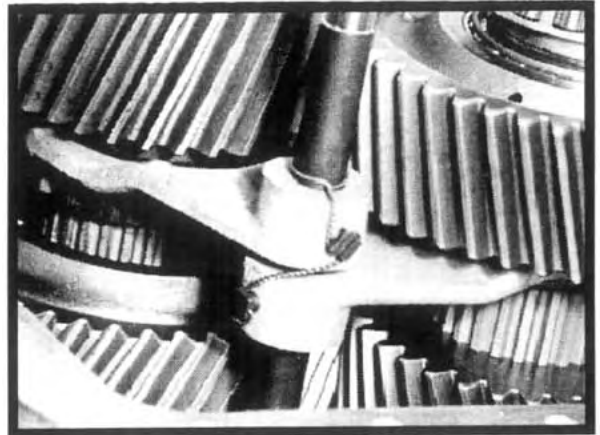

Figure 6.37
13. Install the input shaft shift fork locking screw and torque to specification. Be sure that the screw is seated in the lower groove. Rotate both shift forks clockwise until no further movement is possible. Install the intermediate shaft shift fork locking screw and torque to specification, insuring that the screw is seated in its groove. Attempt to rotate the shift shaft back and forth. There should be some obvious free play. Lockwire the two screws as shown in Figure 6.37.